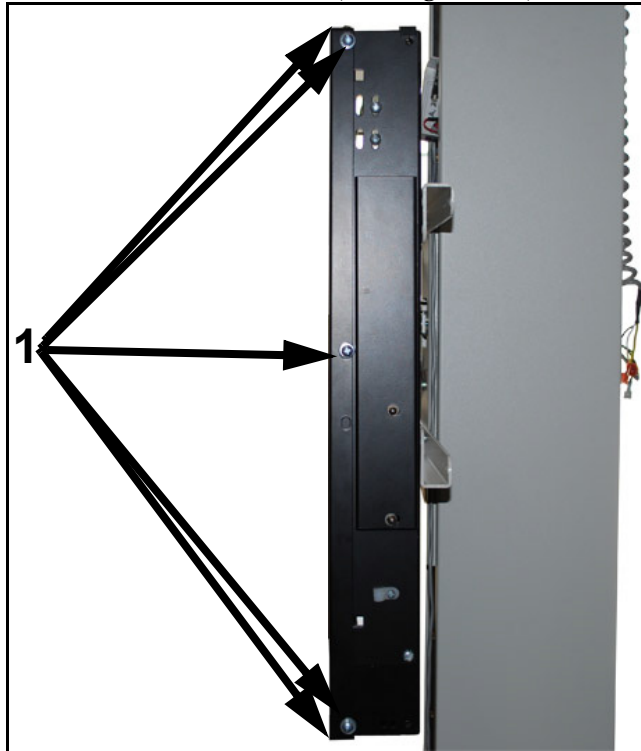

Figure 5-9. Right Face Plate Screws
- 8 Remove the five screws (1 in Figure 5-9) on the right face plate holder.